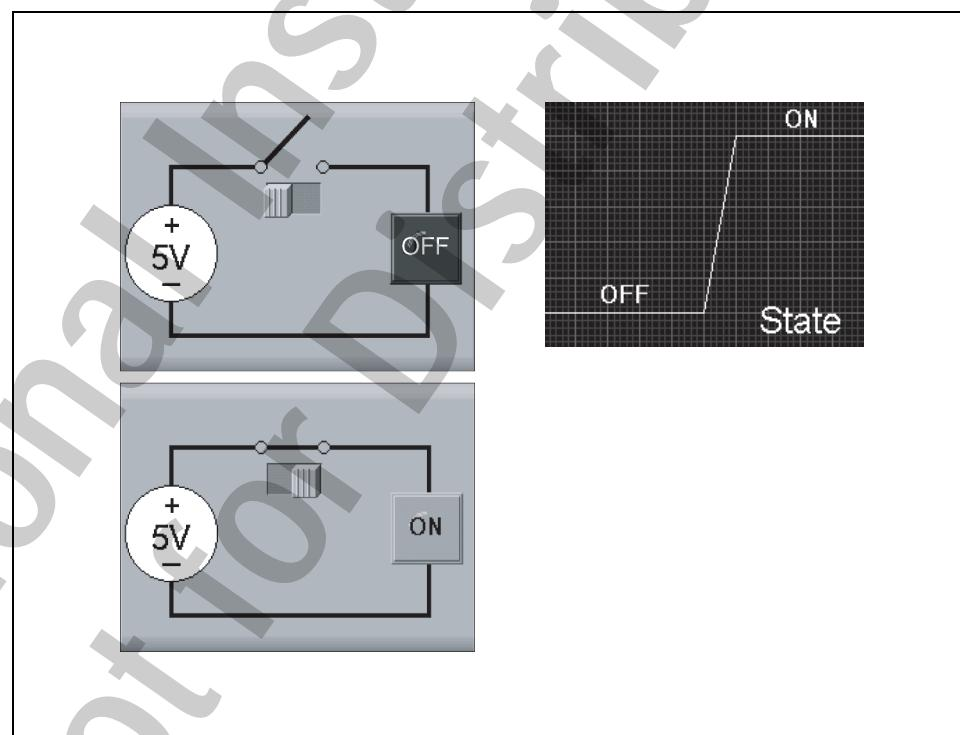

Figure 1-7. State Example
Consider an example of measuring the state of a digital signal, as shown in Figure 1-7.
Assume you have a switch that you want to monitor. This switch turns a light on or off. In the example in Figure 1-7, when the switch is open, you measure 0 V (OFF). When the switch is closed, you measure 5 V (ON). By measuring the state of the digital signal, you can determine if the light is on or off.